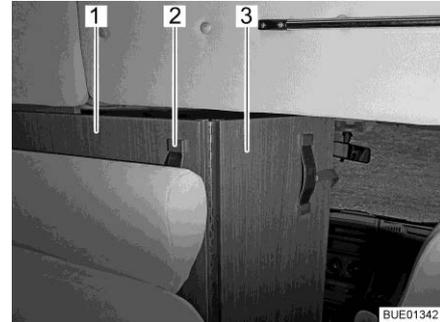

Fig. 53 Driver's cabin partition
- Grip the handle (Fig. 53,2) of the driver's cabin partition (Fig. 53,1) and pull it inwards until the edge of the driver's cabin partition is roughly level with the backrest of the bench seat (Fig. 53).
- Fold out the folding part of the driver's cabin partition (Fig. 53,3) between the seats of the driver's cabin.